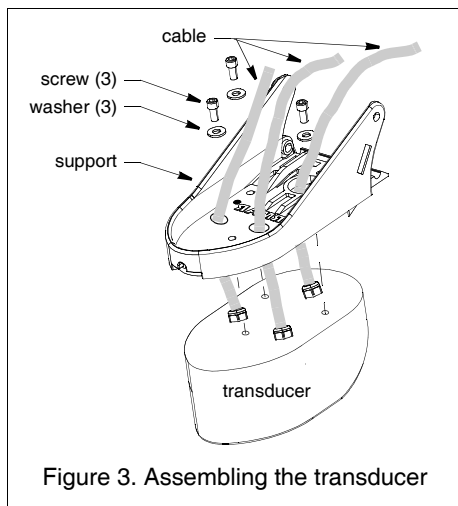

Figure 3. Assembling the transducer
1. There are three cables. Thread each cable through the corresponding hole in the transducer support (Figure 3).